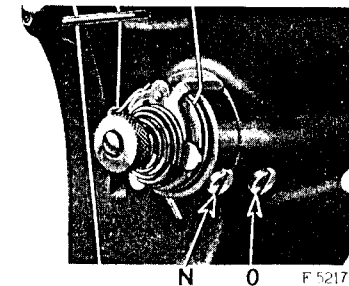

FIG. 17. ADJUSTMENTS ON THREAD CONTROLLER
For more controller action on the thread, loosen the stop screw (N, Fig. 17) at the right of the tension and set the stop lower, and for less action set the stop higher, then tighten the stop screw (N).
To strengthen the action of the controller spring on the thread, loosen the tension stud screw (O, Fig. 17) at the right of the stop screw and turn the tension stud slightly to the left with a screwdriver, or to lighten its action turn to the right and tighten the tension stud screw (O).